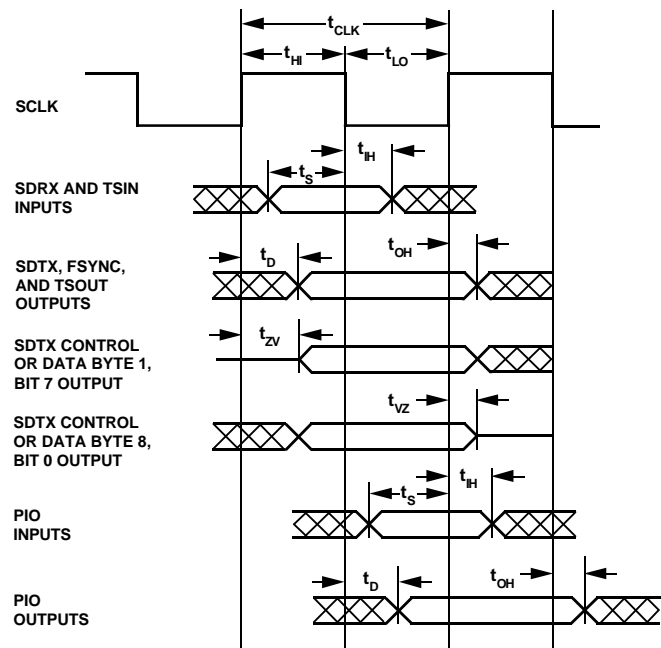

Figure 7. AD1849K Timing Parameters
The PIO pins are read on the rising edge of SCLK five (5) SCLK periods before the first PIO bit is transmitted out over the serial interface. In Data Mode, the PIO pins are sampled as Bit 20 starts to be driven out. In Control Mode, the PIO pins are sampled as Bit 36 starts being driven out. Timing parameters are as shown in Figure 7; PIO pin input data is relative to the rising edge of SCLK. (Note that *only* the PIO pins are read on SCLK rising edges.)